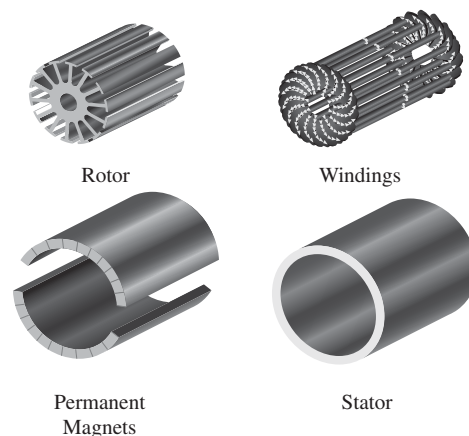

FIGURE 13.15 Permanent magnet DC motor. (From www.cst.com. Reprinted with permission of Computer Simulation Technology.)
13.3.4 Permanent Magnet (PM) DC Motor
The operation and characteristics of permanent magnet DC motors are the same as DC shunt motors with a wound stator. The only difference in architecture is that in a permanent magnet (PM) DC motor, the field is created by permanent magnets on the stator instead of a field winding. Figure 13.15 shows the components of a permanent magnet DC motor with all the components distinctly marked.